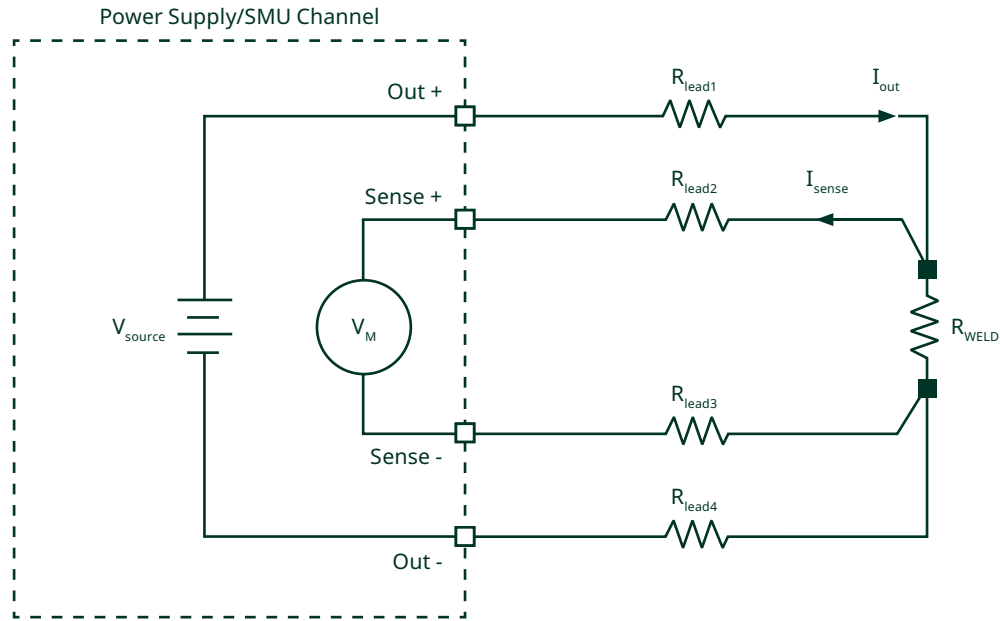

FIGURE 4
- **Battery Cell Weld**—Welding is a common way to join battery cells, aiming to establish a robust, low-impedance connection that maximizes current capacity and strength while keeping the weight minimal. While destructive testing evaluates weld parameters, nondestructive testing is crucial for pack assemblies. Thus, impedance measurements across the welds serve as an effective nondestructive evaluation technique. Accurate measurements can be challenging due to the typical milliohm or microohm range of battery welds. To enhance measurement accuracy, applying higher currents can assist in evaluating the weld impedance. Using a PXI SMU (Figure 4) offers higher current capabilities than a standard DMM for resistance measurements. Alternatively, a DMM, along with an external current source such as an RMX supply (Figure 5), provides a greater excitation current to improve the accuracy of impedance measurements. In either approach, a four-wire measurement configuration ensures that lead resistance does not introduce any adverse effects that could affect result accuracy or reliability.